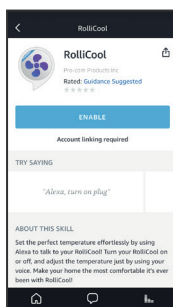

Fig. 5
Step 2. Select the RolliCool app and tap “ENABLE” (fig. 5).